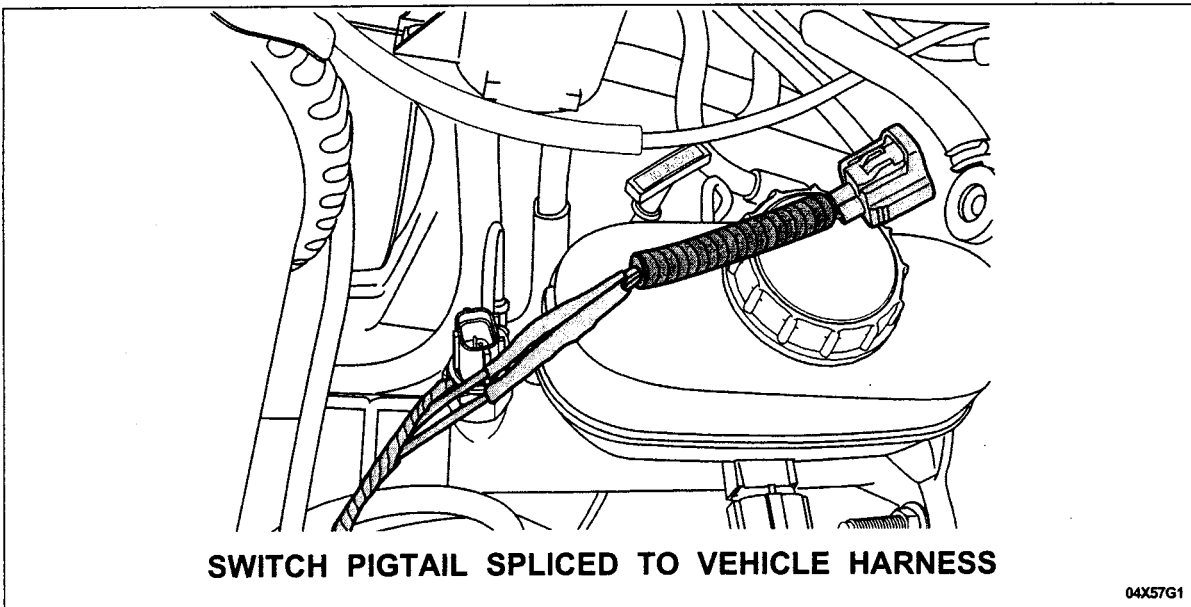

FIGURE 7
4. Modify the vehicle wire harness and jumper harness as follows: See Figure 7.
- g) From the Rotunda Wire Splice Tool Kit 164-R5903, obtain two (2) 16-gauge non-insulated butt splice connectors and two (2) pieces of heat shrink tubing.